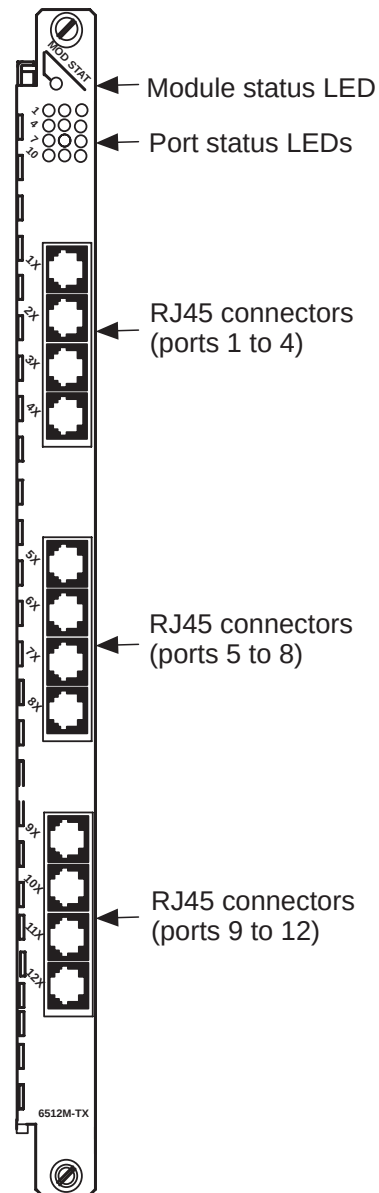

Figure 1-1 CoreBuilder 5000 12-Port 100BASE-TX Workgroup FastModule Front Panel
- Twelve bicolored LEDs and a module status LED on the front panel. These LEDs provide status information for the module and each of the ports (Figure 1-1).
Figure 1-1 illustrates the front panel of the 12-Port 100BASE-TX Workgroup FastModule.